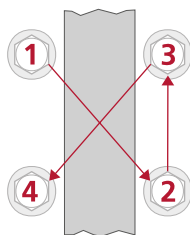

Figure 110: Tighten U-Bolts Evenly
4. Tighten the U-bolt locknuts evenly 70 Nm increments in the proper pattern to achieve uniform bolt tension. Refer Figure 110.